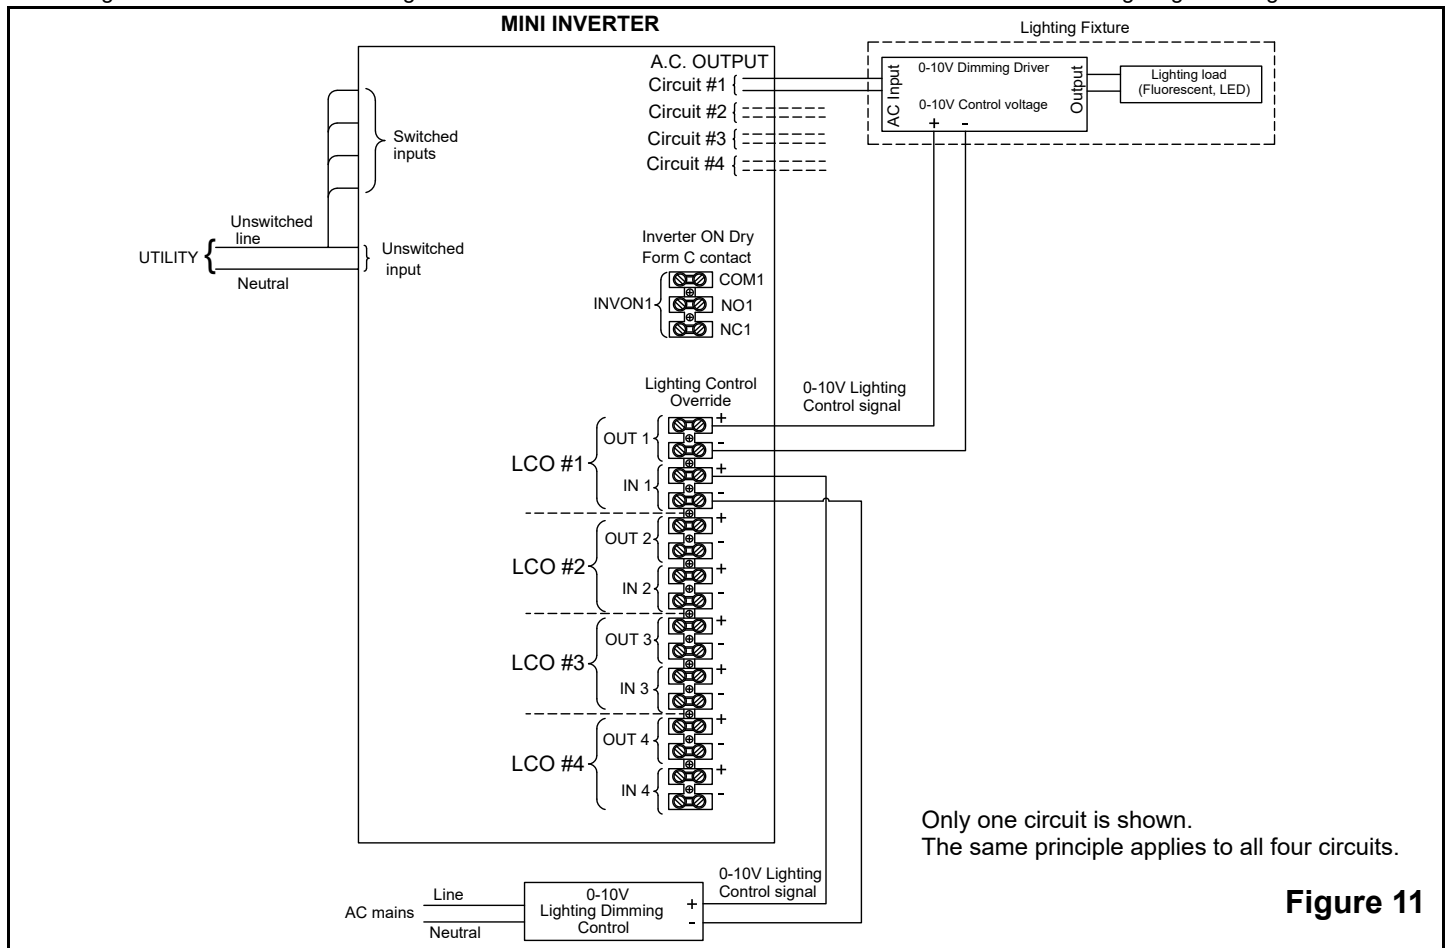

Figure 11
3. Connect the Lighting Control signal cables from the lighting fixtures to the corresponding terminal blocks identified by OUT1, OUT2, OUT3 or OUT4 in the Mini Inverter. Observe the polarity of the cables (*refer to figure 11*). Purple is positive and grey is negative.
The Mini-Inverter also comes with one set of INVERTER-ON Dry Form “C” contact. The INVERTER-ON Dry Contact is identified as “INVON1”; its position is illustrated in **Figures 11 and 12**. The INVERTER-ON Dry Form “C” contact changes position in emergency mode.